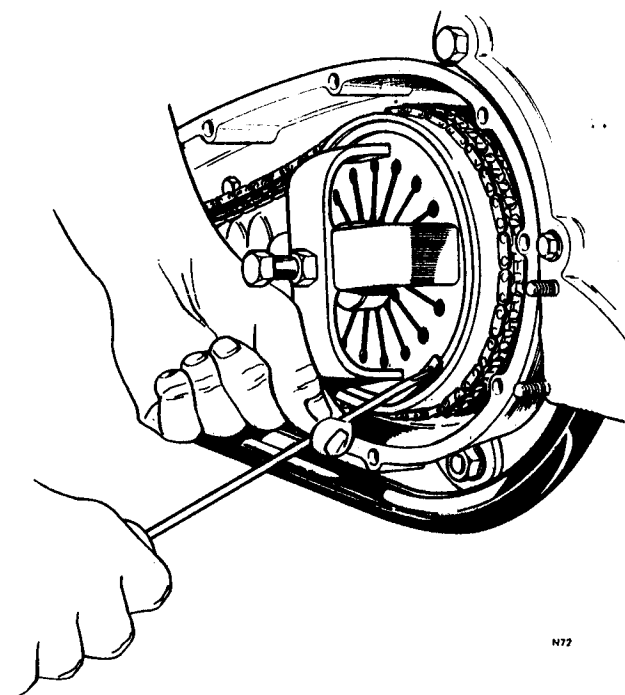

Fig. C14 Using a screwdriver blade to peel circlip away from housing
- 10 When the spring is compressed and free to rotate and using a screwdriver blade as shown in *Fig. C14*, lift the first end of the diaphragm spring clear of the circlip groove in the housing and commence to peel the circlip away from the groove.